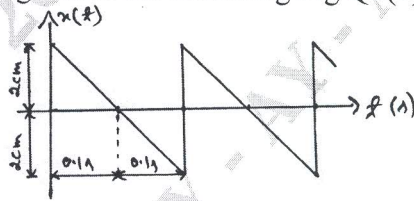

Fig Q1(b)
b. Represent the periodic motion given in the following Fig Q1(b) by harmonic series